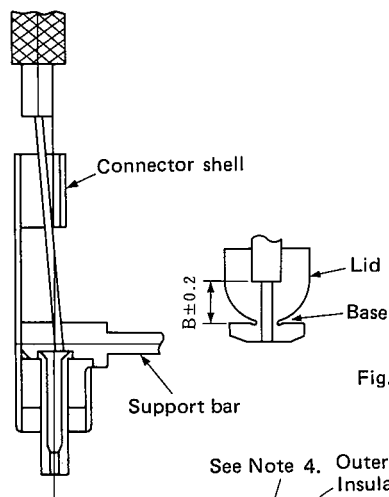

Fig. 3
- (1) Pass the cable center conductor through the connector shell, as shown in Figure 3. Then insert the center conductor into the hole in the male terminal while making sure that the connector shell passes between the outer conductor and the cable insulation. Insertion will be completed when the cable insulation reaches the section of dimension "B" specified in the table below.